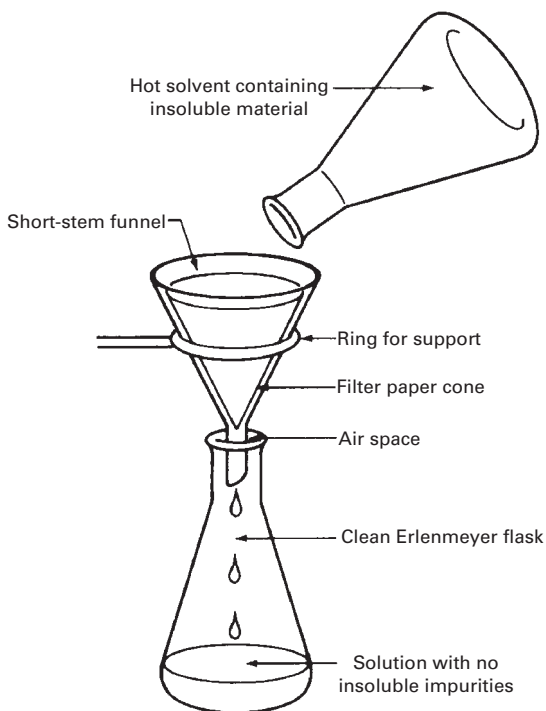
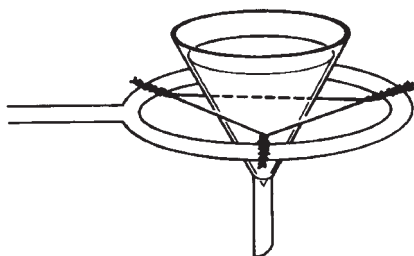

FIGURE 13.3 The gravity filtration setup with a funnel that fits the iron ring.
FIGURE 13.4 A wire triangle holding a small funnel in a large iron ring for gravity filtration.
4. Support this in a ring attached to a ring stand (Fig. 13.3). If the funnel is too small and you think it could fall through the ring, you may be able to get a **wire** or **clay triangle** to support the funnel in the ring (Fig. 13.4).